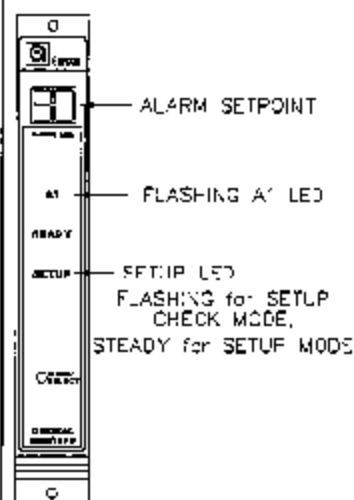

Figure 29
- The last A1 alarm option to appear on the display will be the alarm set point (trip level). If this level is reached or exceeded the A1 alarm outputs will activate. The display will indicate the current A1 alarm set point (figure 29). Press the Mode/Select switch repeatedly, until the desired A1 alarm set point appears on the display (10 to the A2 set point in increments of 5). The A1 set point cannot be set higher than the A2 set point. 30 is the factory default for this selection.